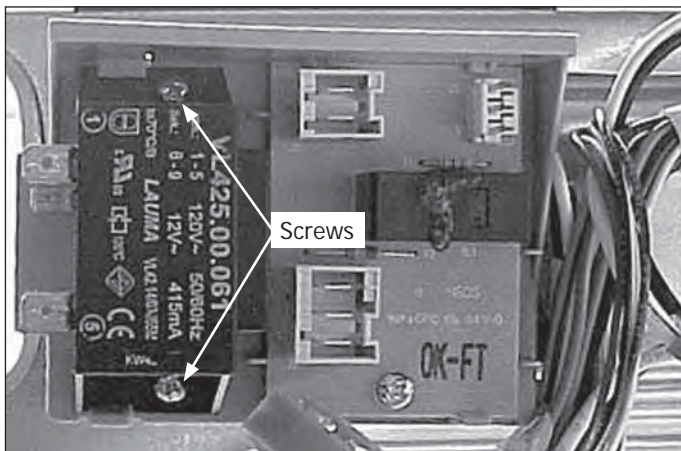

Figure 4-33.
4. Release the (2) tabs at the bottom of the board and lift the board out. (See Figure 4-33)
3. Remove the (2) screws holding the transformer to its mounting bracket and lift the transformer out. (See Figure 4-33)